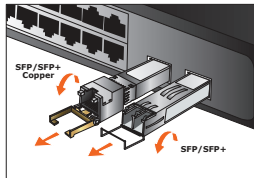

Figure 2
2. Remove the Fiber Optic Cable gently (See Figure 2).